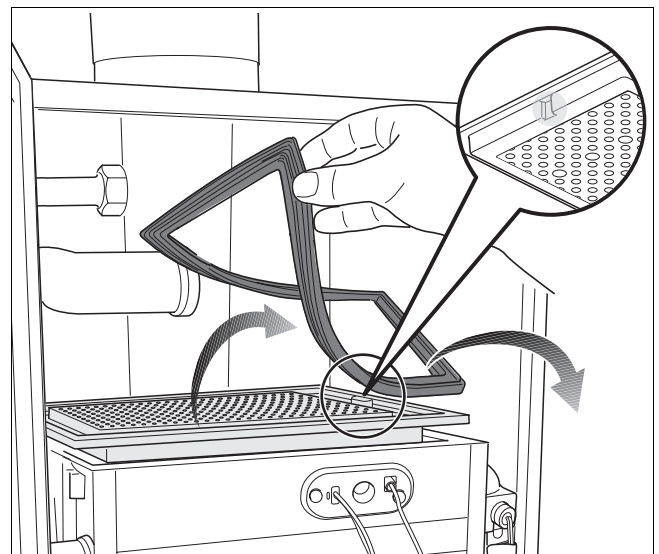

fig. 15 Re-installing the burner plate
- Refit all parts in reverse order. When re-installing the burner plate, make sure that the notch is on the right-hand side (fig. 15).